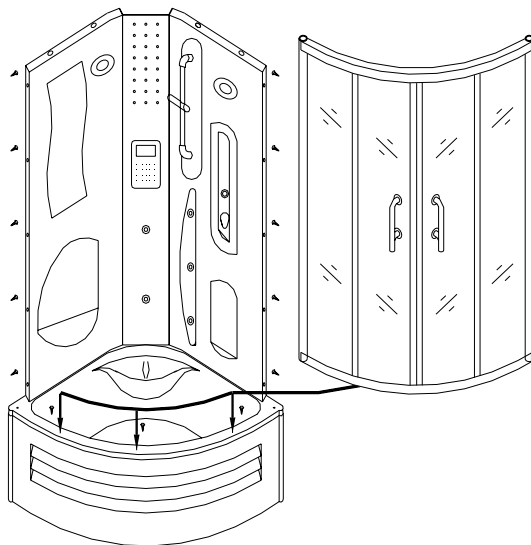

Fig.4
4) Install the glass assembly: (a) Install the lower rail — Put two pillars on foam cloth , inserted the connector of the lower rail into the notch at the under parts of the two pillars, fasten it tightly with two M5x20 hexagonal bolts from the inside of the pillars. (b) Install the fixed glass and the upper rail — Make two fixed glass inserted to the notch of the two pillars and the lower rail respectively, and Insert the connector of the upper rail into the notch at the upper parts of the two pillars, fasten it tightly with two M5x20 hexagonal bolts from the inside of the pillars. (c) Install the sliding glass door — Penetrate the eccentric wheel into the holes of the sliding door, Pay attention to soft gaskets at both sides, tweak the screw nut slight tightly, And then hang up the sliding door to the notch of the upper and the lower rail. And adjust eccentricity to make the sliding door vertical and sliding flexibly, screw down the nut tightly, make up the glass assembly. Connect the glass assembly with the wall body and the bathtub by bolts, gaskets and nuts, don't tighten them either for the moment. As fig.4, fig.5